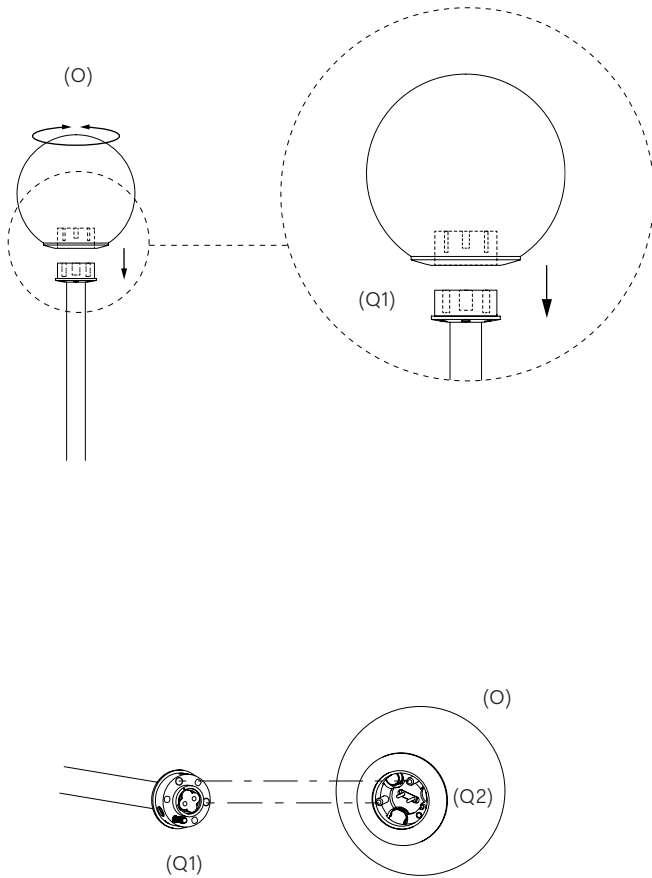

Fig. 16
Again, on a soft surface, using gloves, secure the Small Glass Sphere 1 (O) onto the Pendant Rod (P). Carefully rotate the Small Glass Sphere 1 (O) onto the Small Male Glass Connector (Q1) until the internal location pins are aligned. Gently push the Small Glass Sphere 1 (O) onto the pins until the outside faces of the Small Female Glass Connector (Q2) and Small Male Glass Connector (Q1) sit flush. Secure the Small Glass Sphere 1 (O) with the supplied M2×8 screw, ensuring it is tight. See Fig. 15 and Fig. 16.